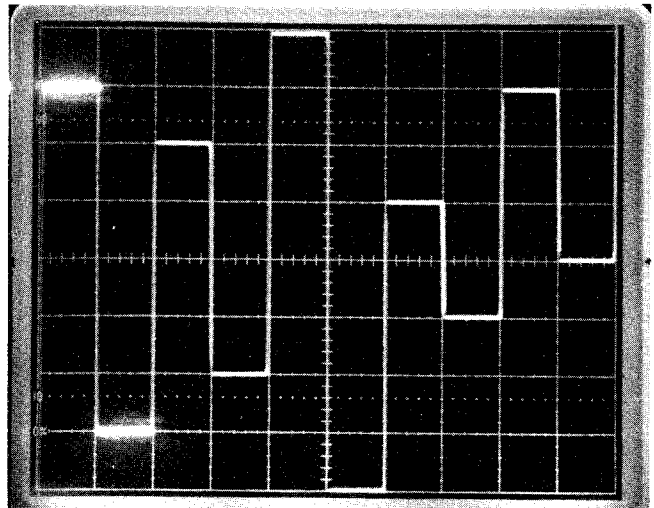

Fig. 4. CAL waveform display with a properly adjusted Display Generator.
7. Readjust HORIZ BAL and HORIZ GAIN as necessary, following the procedure outlined in Step 4. Take care not to disturb settings of the compensation controls, R109 and R190. Fig. 4 shows the CAL waveform with a properly adjusted Display Generator.